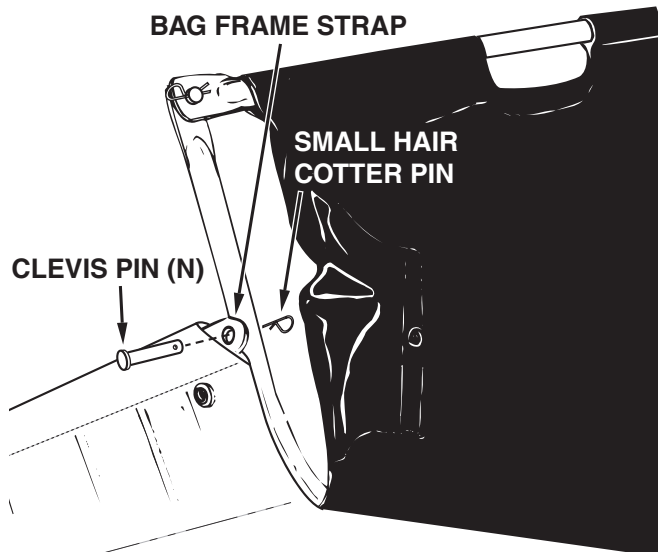

FIGURE 18
8. Assemble the bag frame strap to the holes in the lower hopper tubes using two 1/4" x 1-1/8" clevis pins and small hair cotter pins. See figure 18.